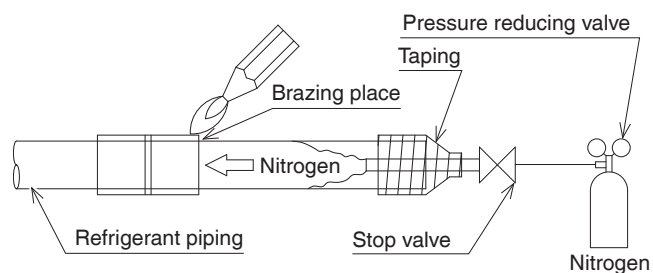

Fig. 22
- Before brazing refrigerant piping, have nitrogen flow through the refrigerant piping and substitute air with nitrogen (NOTE 1) (Refer to Fig. 22). Then, carry out brazing (NOTE 2). After all the brazing works are finished, carry out flare connection with the indoor unit.